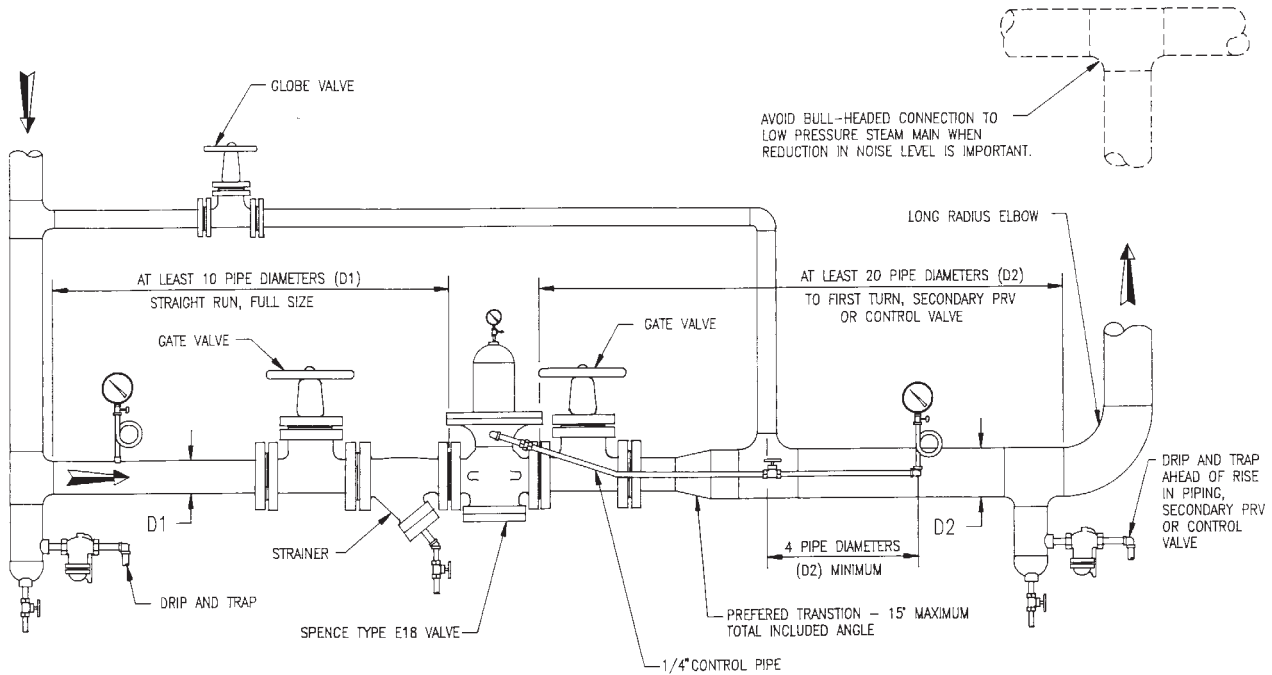

FIGURE 1
Locate the Valve in a straight run of horizontal pipe with the Volume Chamber (4) up. (See Fig. 1) Allow clearance above and below for maintenance. When located outside, exposed to the elements, it is recommended that an insulation cover be fitted over the upper air chamber.
Prevent water hammer and erratic operation by installing traps to provide proper drainage before and after the Valve and before a secondary PRV or Control Valve. Avoid the damaging effects of scale and dirt in pipe lines by using a Strainer. (See Fig 1) Provide a 3 Valve by-pass to facilitate start-up and allow inspection and maintenance without interrupting service.
4. Main valve may be held open by foreign matter in seat. Steam may wash the obstruction from the seat if the Valve is made to open wide. This can be accomplished, even at light load, if the Control Point is beyond the Outlet Gate Valve (See Fig. 1). Slowly open and close the Outlet Gate Valve.